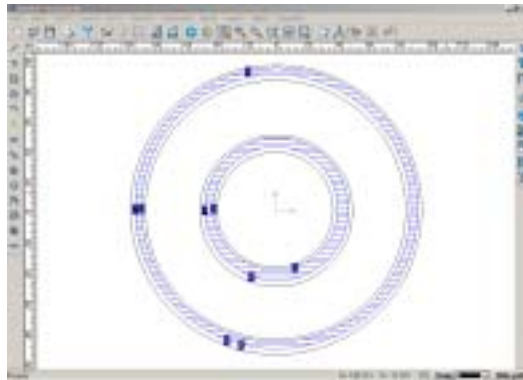

Fig. 10-65
5. Click on **Yes** to save the new tool path sequence, or click on **No** to preserve the original tool path sequence. Fig. 10-65 is the new tool path.